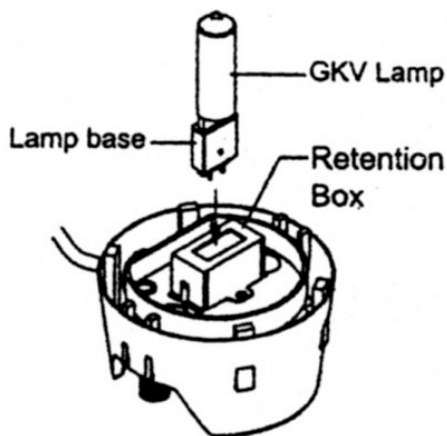
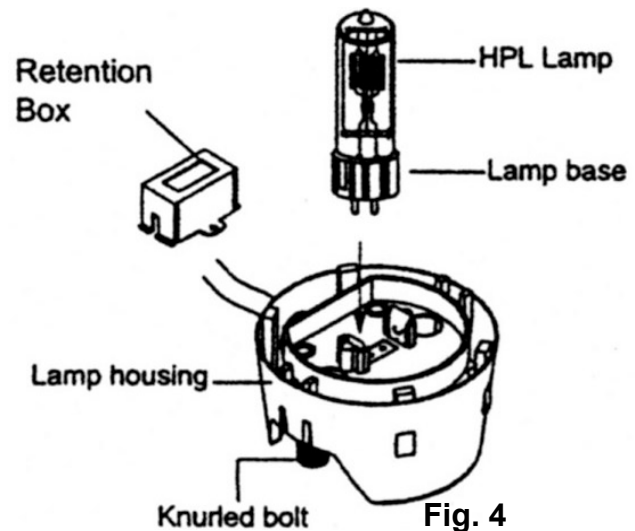

Fig. 3
Fig. 4
4. line up the lamp base with the hole of the retention box (Fig. 3).
6. If your lamp is not same as Figure 3, and it is same as Figure 4, please remove the retention box. then firmly insert the lamp into the socket by pushing the lamp base. (Not: Remain the retention box for the future).